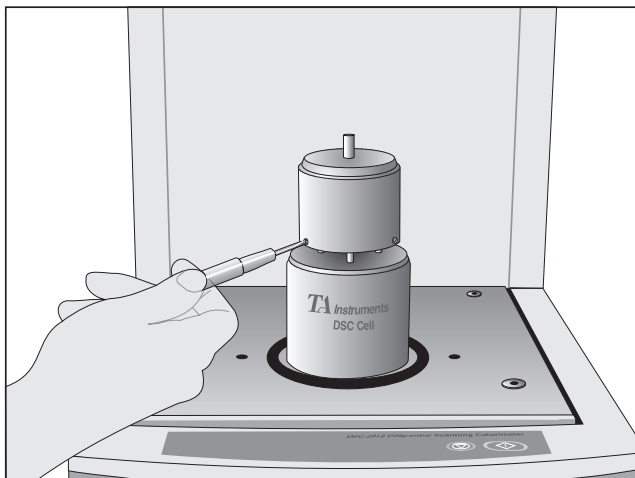

Figure 2.3
3. Remove the three (3) retaining screws, then *carefully* remove the thermal radiation shield surrounding the heater. (see Figure 2.3).